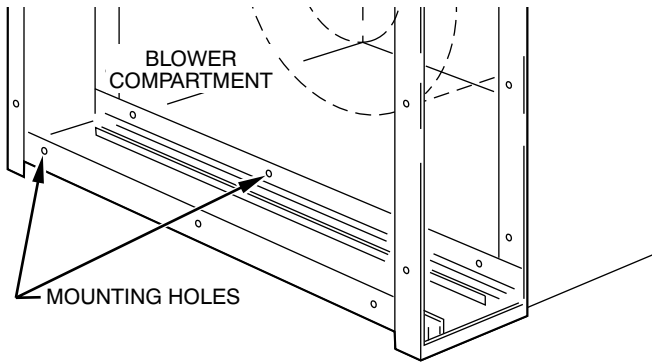

Fig. 7 – Mounting Holes
5. Mounting holes are provided for simple connection to duct work and unit cabinet. See Fig. 7. The 0.14 in. holes are sized for #8 sheet metal screws, or 1/8 in. rivets. If the adjoining duct work is flanged, install the screws so that the screw heads are inside the cabinet. This will prevent damage to the EZ-Flex filter during removal and installation.